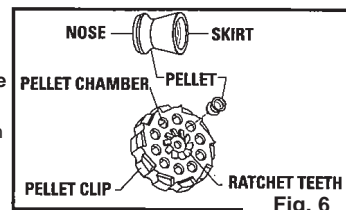

Fig. 6
- Remove the pellet clip and place a .177 caliber (4.5 mm) pellet, nose first, in each pellet chamber. (Fig. 6) **IMPORTANT:** To avoid jams or deforming the pellets, make sure the pellet skirt is level or slightly below the rim of the pellet chamber.